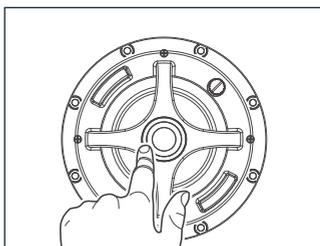

Figure 8:
8. Pivoting tweeter assembly allows the treble to be directed to the most suitable location if the speaker is installed of-axis. To pivot the drivers apply light pressure to the ring around the outside edge of the tweeter cone. Take care not to touch or apply pressure to the cone itself (see Figure 8).